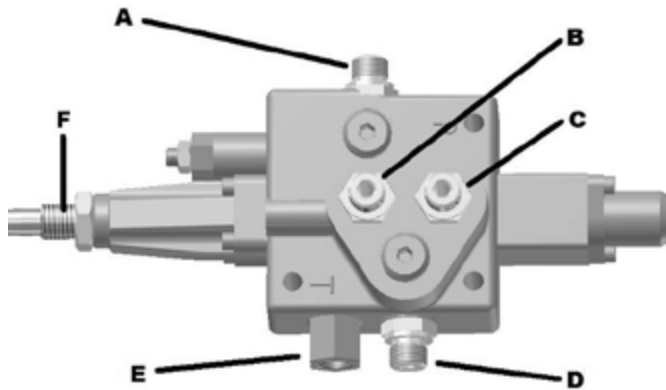

Fig 22: Connection assignments of the control device, single
2. Connect the joystick element and the control device to the cable pulls in accordance with the connection descriptions for your control device in Fig 22 or Fig 23.